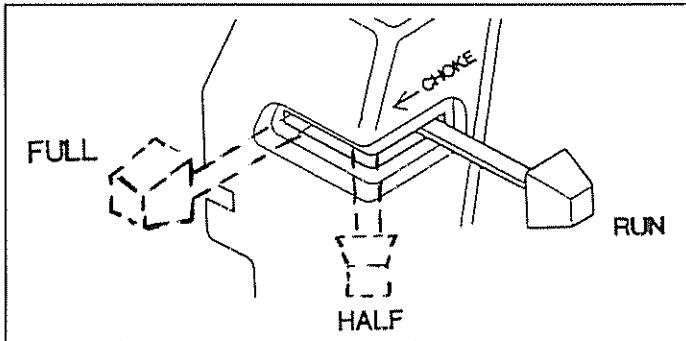

FIG. 21
- Close the choke to FULL position (Fig. 21 on Page 13) by sliding it to far position in direction indicated by arrow on air cleaner housing.